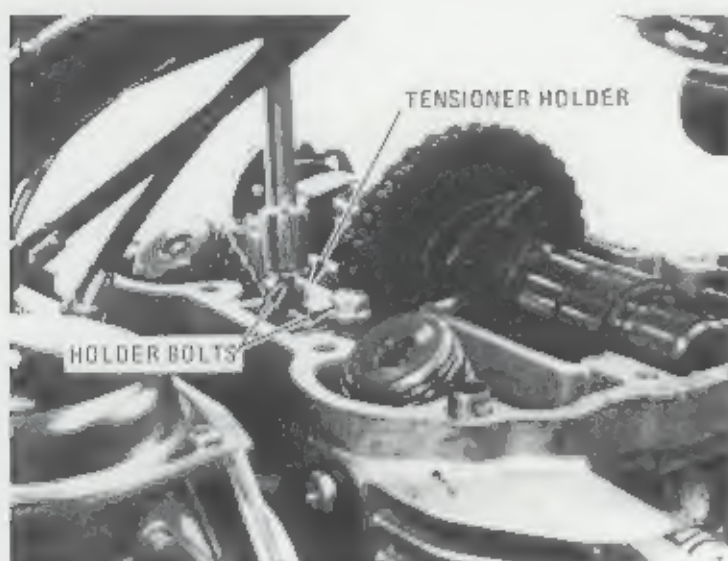

FIG. 2
2. Remove the upper tensioner holder and damper (Fig. 2).